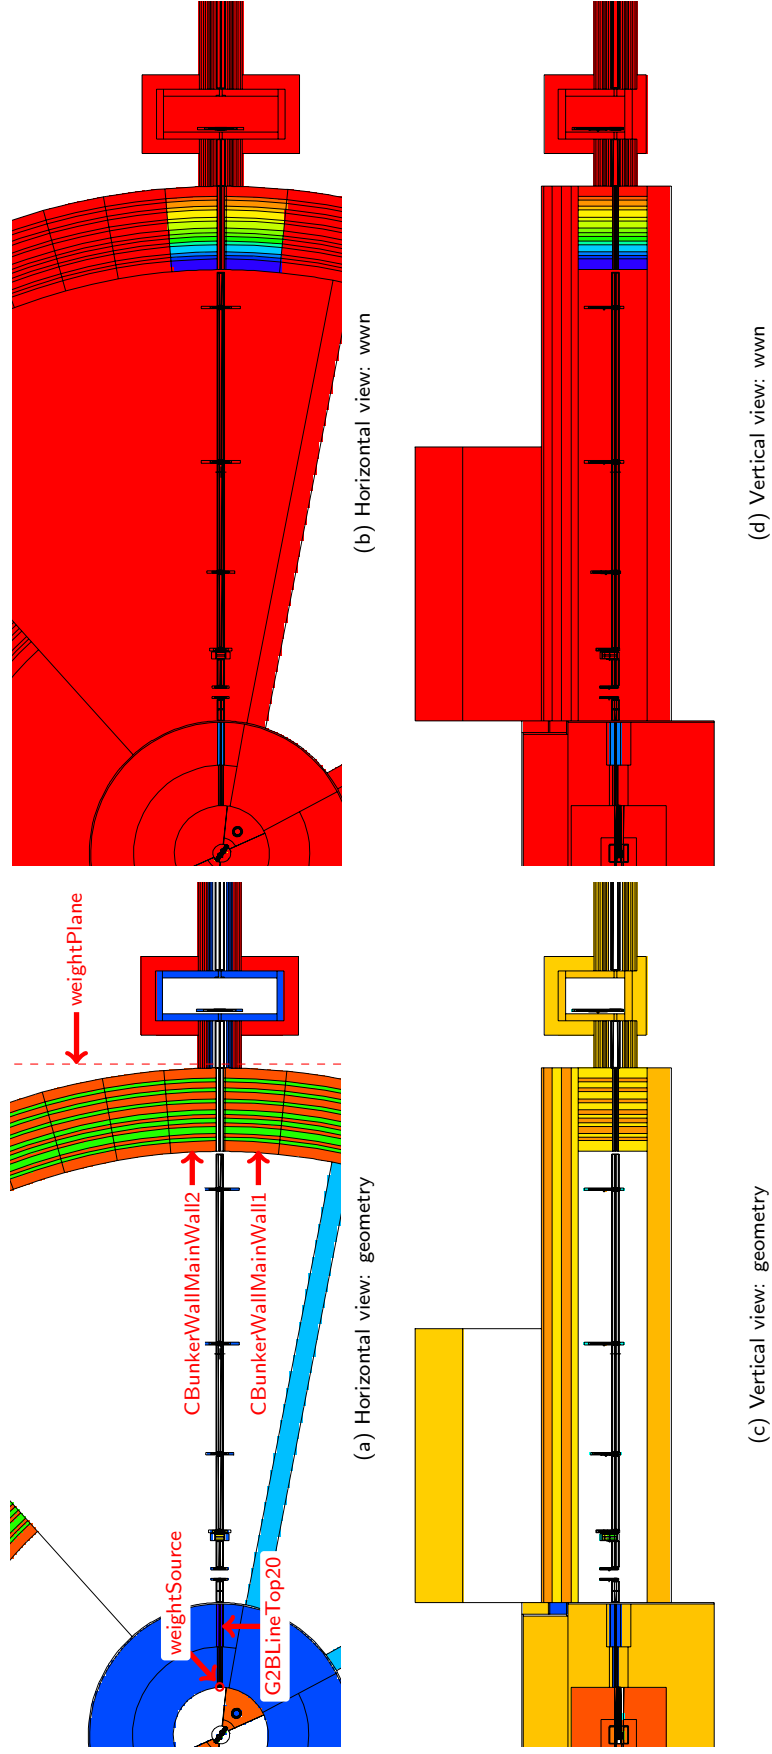

Figure 3: Cell-based weight window
--defaultConfig Single ODIN --angle objAxis odinAxis 0 These optional arguments build the ODIN beam line and rotate geometry around the z axis in such a way that the ODIN beam line is collinear to the x axis. This rotation simplifies the weight window source plane setup for the current example and used here for illustration purpose (see Fig. 3).